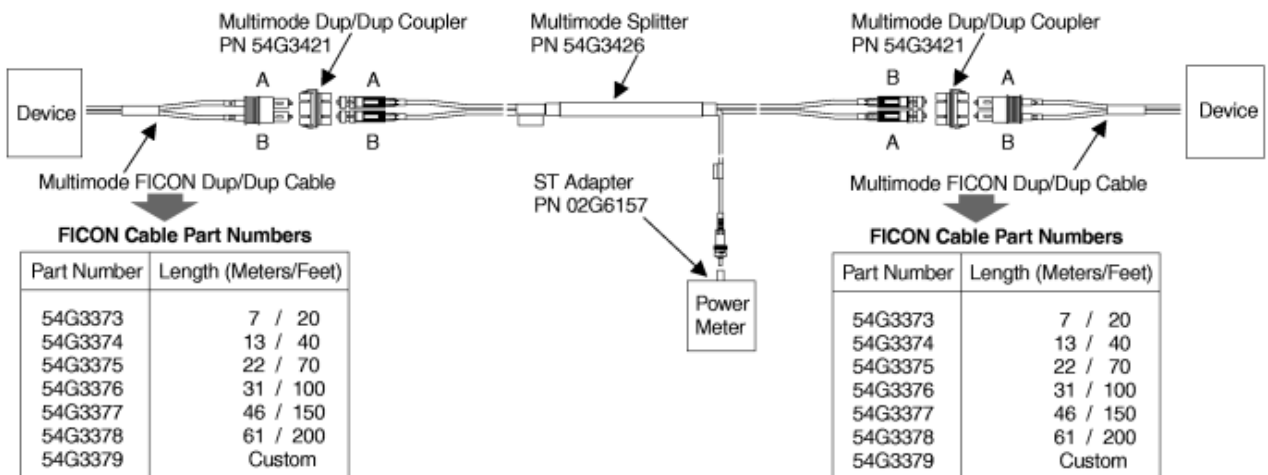

Figure 47. Isolating a multi-mode link segment with a splitter tool
- Multi-mode links - See Figure 47 on page 41.